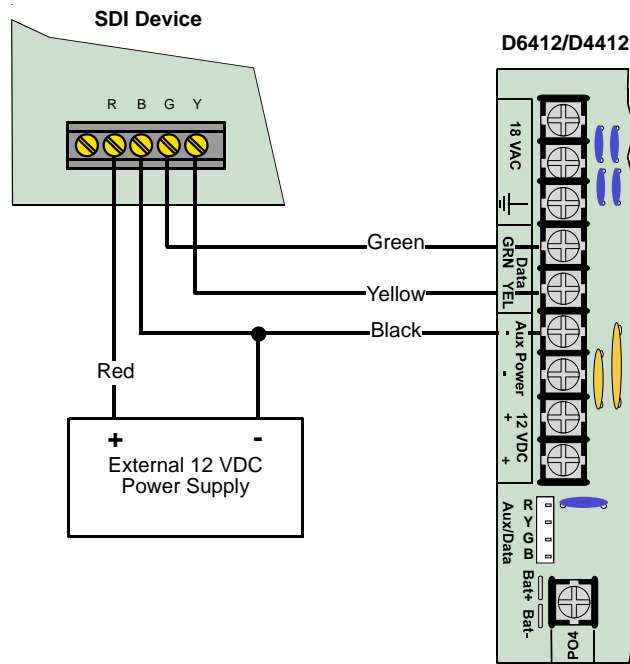

Figure 36: External Power for SDI Devices
*Figure 36* shows the common from the External Power Supply Module connected to the command centers' common and the common on the control panel.